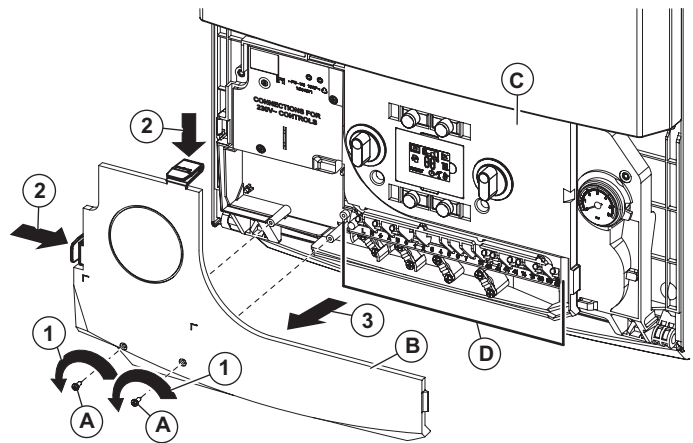

Fig. 4.14
#### 4.10 CONNECT THE MAINS SUPPLY - Figs. 4.14 and 4.15
1. Remove the two screws 'A' in Fig. 4.14.